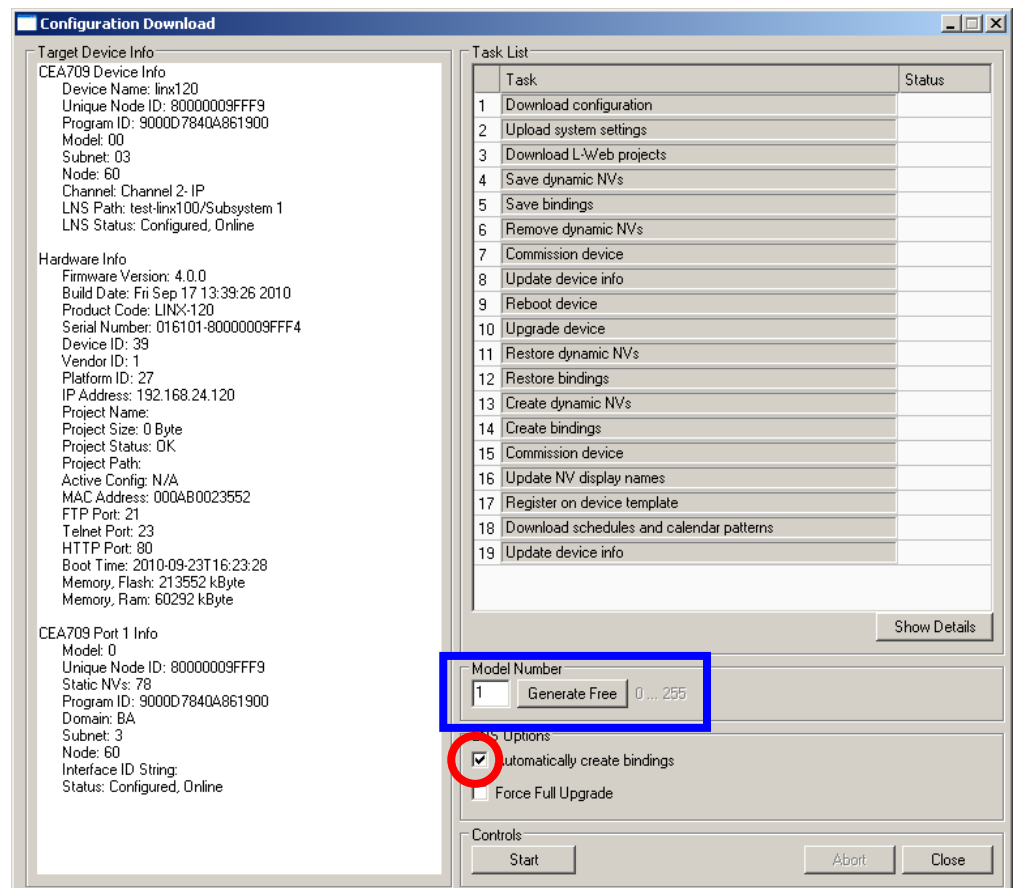

Figure 126: Configuration Download Dialog via LNS.
2. If no bindings shall be generated, deselect the **Automatically create bindings** checkbox indicated by the red circle in Figure 126.